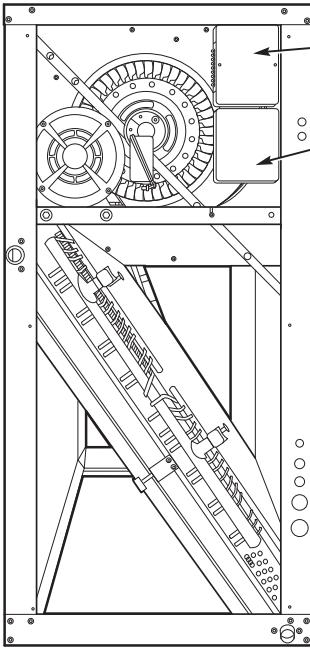

Fig. 6 — Installing Economizer Transformer and Relay
3. For air handlers without a circuit breaker in the control box (units with fan motor sizes less than 5 hp [3.73 kW]) mount the transformer and relay inside the control box. Use the holes in the transformer base and relay base as guides to drill holes into the box and fasten components in place with supplied no. 8 x $\frac{1}{2}$ -in. sheet metal screws. See Fig. 6.
4. For air handlers with a circuit breaker in the control box (units with fan motor sizes of 5 hp [3.73 kW] or greater), mount the supplied transformer and relay in a field-supplied and installed electrical box as shown in Fig. 6. Use the holes in the transformer base and relay base as guides to drill holes into the box and fasten components in place with supplied no. 8 x $\frac{1}{2}$ -in. sheet metal screws.